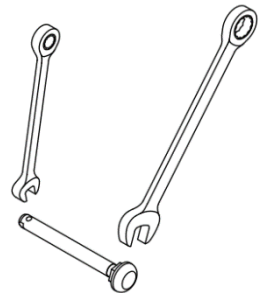

Figure 12.19: Quick Release Axle Adjustment
1. Using a 9/16" open end wrench, securely hold the detent ball end of the axle. (See Figure 12.19)